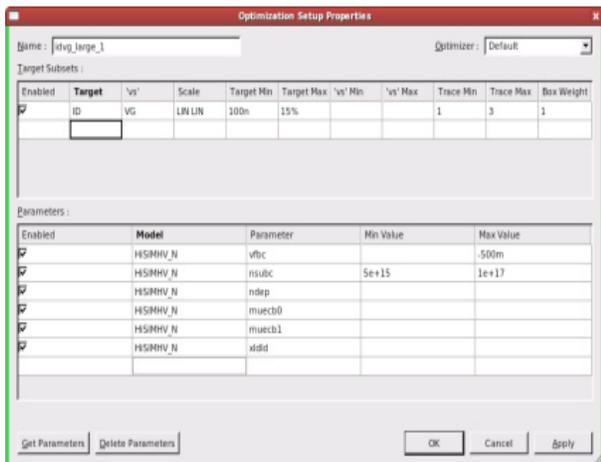

Figure-1 Utmost IV Optimization Setup Property for idvg\_large\_1.
**Optimization Setup Property: `idvg_large_1` (Figure-1)** HiSIM\_HV basic device parameters such as **`NSUBC`** (substrate impurity concentration) and **`VFBC`** (flat band voltage), and the low field mobility parameters of **`MUECB0`** and **`MUECB1`** (Coulomb scattering) are optimized first. Also, the **`XLDLD`** (gate overlap length at drain side) parameter needs to be optimized for the effective channel length determination. **`NDEP`** (depletion charge contribution on effective-electric field) is optional for the high voltage devices. Maximum and minimum values of **`NSUBC`** could be defined according to the process specification, as the wide range could lead to the unnecessary search of the genetic algorithm optimization.